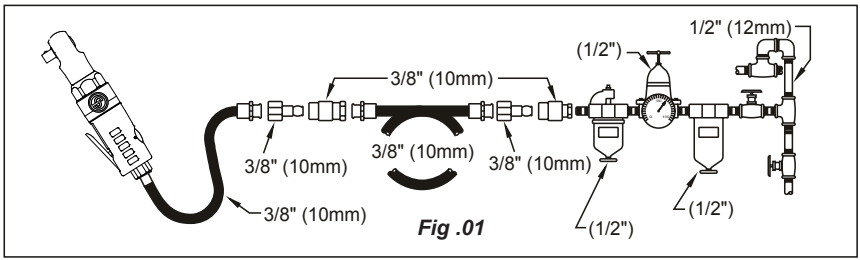

Fig. 01
- Connect device as shown in Fig. 01 to a clean and dry air supply.